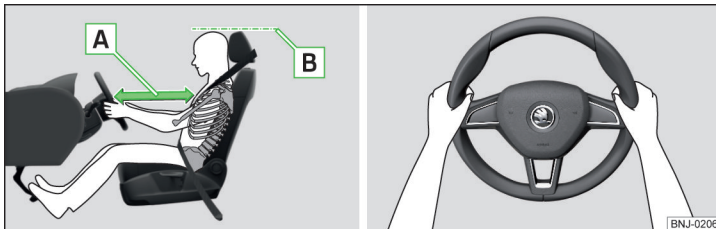

Fig. 14 Correct seated position for the driver/correct steering wheel position
- ✓ Adjust the steering wheel so that the distance between the steering wheel and your chest is at least 25 cm » Fig. 14 - A.
- ✓ Adjust the headrest so that the top edge of the headrest is, where possible, at the same level as the upper part of your head (not for seats with integrated headrests) » Fig. 14 - B.
- When driving, hold the steering wheel with both hands firmly on the outer edge in the "9 o'clock" and "3 o'clock" position » Fig. 14. Never hold the steering wheel in the "12 o'clock" position or in any other way (e.g. in the middle, inner edge of the steering wheel or similar). Otherwise, you could sustain serious injury to the arms, hands and head if the airbag is activated.
- ✓ Adjust the head restraint so that the top edge of the head restraint is at the same level as the upper part of your head » Fig. 14 on page 19 - B (not for seats with integrated headrest).
- ✓ Adjust the head restraint so that the top edge of the head restraint is, where possible, at the same level as the upper part of the head » Fig. 14 on page 19 - B.